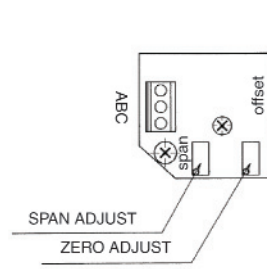

Fig.7 P.C board
- To apply the positioner in reverse operation (counter-clockwise), specify the accessory classification JR when ordering. Alternatively, to change the operation of the delivered product, re-arrange the cam to the opposite side and switch the terminals A and C (refer to Fig.7), to reverse the direction of the output signal.